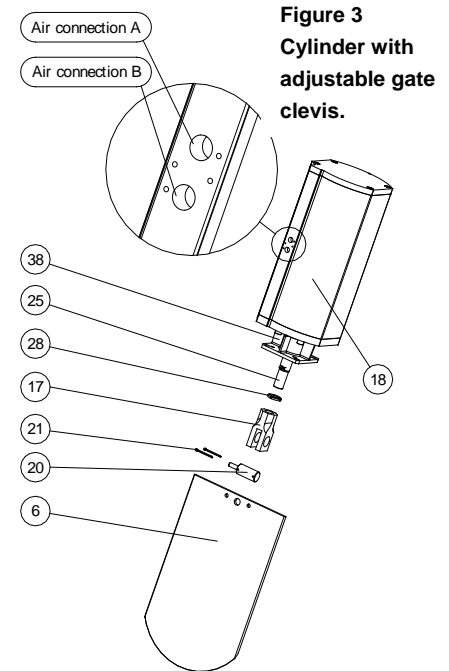

Figure 3
<p>Single acting cylinders need only one air supply connection: Spring to open: Air connection at A, see figure 3 Spring to close: Air connection at B, see figure 3 The other cylinder air connection shall be closed by a filter to protect the cylinder inside from contamination at service.</p>
- Clevis pin (20) and split pins (21) (see figure 3)
ECS-O Air connection at A, see figure 3.
ECS-C Air connection at B, see figure 3.